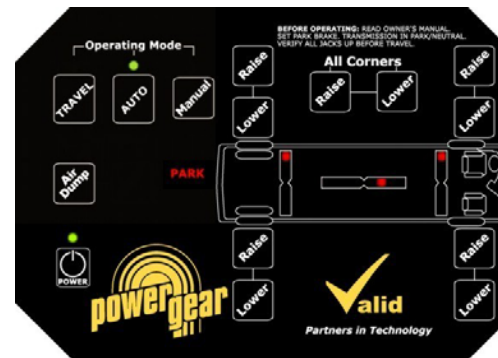

Fig 1
2. Press **AUTO** to initiate a leveling cycle. If the level controller will not go into Auto mode it is most likely because the vehicle's parking brake has not been applied (Fig 1). Apply the parking brake to have the system go into Auto mode.